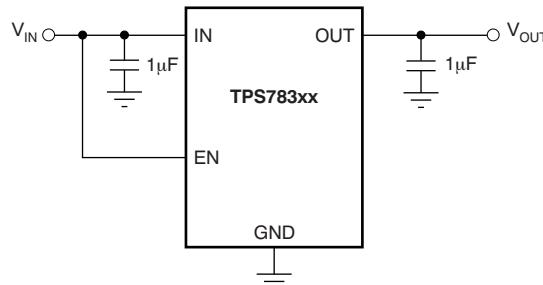

Figure 18. Circuit Showing EN Tied High When Shutdown Capability is Not Required
The enable pin (EN) is active high and is compatible with standard and low-voltage CMOS levels. When shutdown capability is not required, connect EN to the IN pin, as shown in Figure 18.